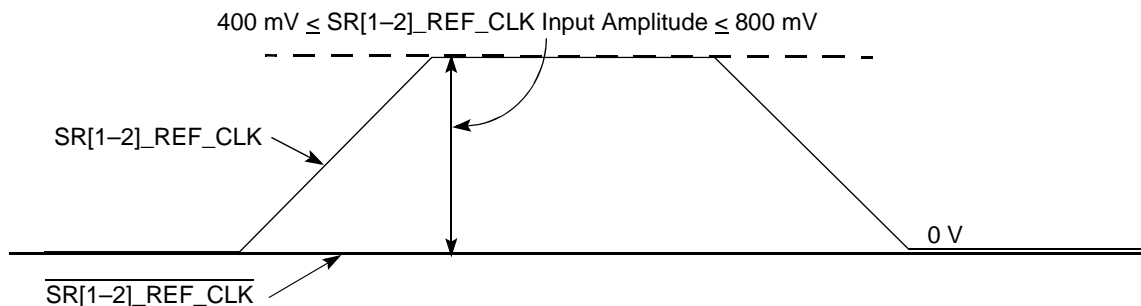

Figure 9. Single-Ended Reference Clock Input DC Requirements
- The SR[1-2]\_REF\_CLK input average voltage must be between 200 and 400 mV. Figure 9 shows the SerDes reference clock input requirement for single-ended signalling mode.